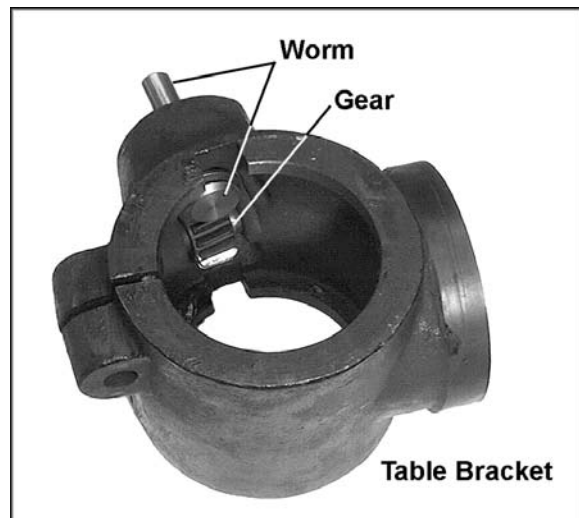

Figure 3
Referring to Figures 3 through 6:
2. Position the worm through the hole in the table bracket (Figure 3) and push it as far as it will go until the shaft protrudes and the worm is meshed with the gear, as shown.